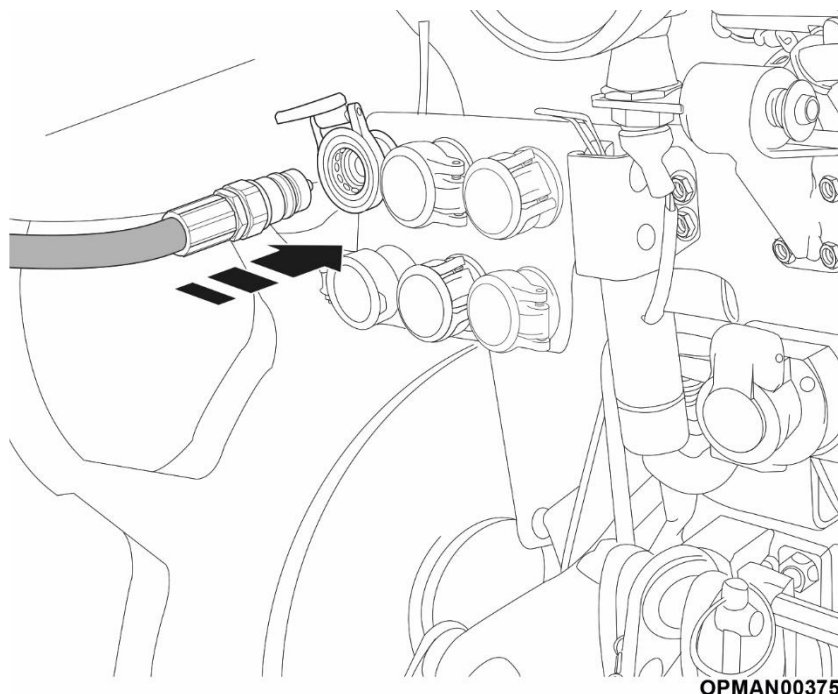

Figure 7
- 3.2.2.1 If the machine is provided with hydraulic side-shift, connect the two hydraulic hoses of the mower to the hydraulic services of the tractor (Figure 7).